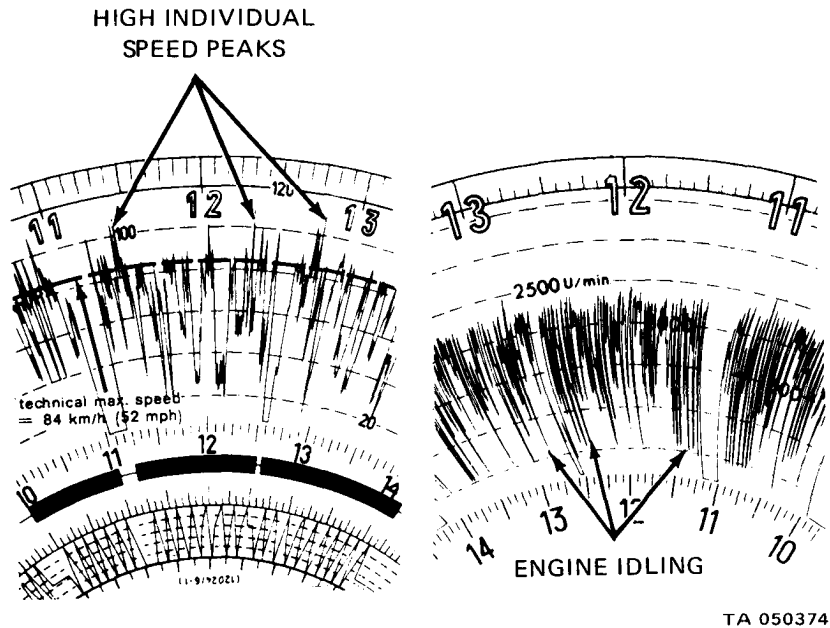

Figure 20-10. Driving Downhill without Gear Engaged
(5) Driving downhill without gears engaged. This can easily be read on the speed field. Individual speed peaks (Fig. 20-10) will be seen above the maximum speed stated in the operating instructions for the truck. This condition can also be read on the rpm field by looking to see if the engine was idling during this time. If the engine was connected to the wheels at that time on chart, the rpm field would show an increase as the speed of the truck increased.